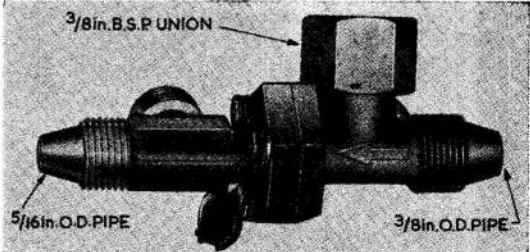

Fig. 1. Liquid oxygen check valve
4. Referring to fig. 1 and 2, it will be seen that a hexagonal flange provided with this unit enables